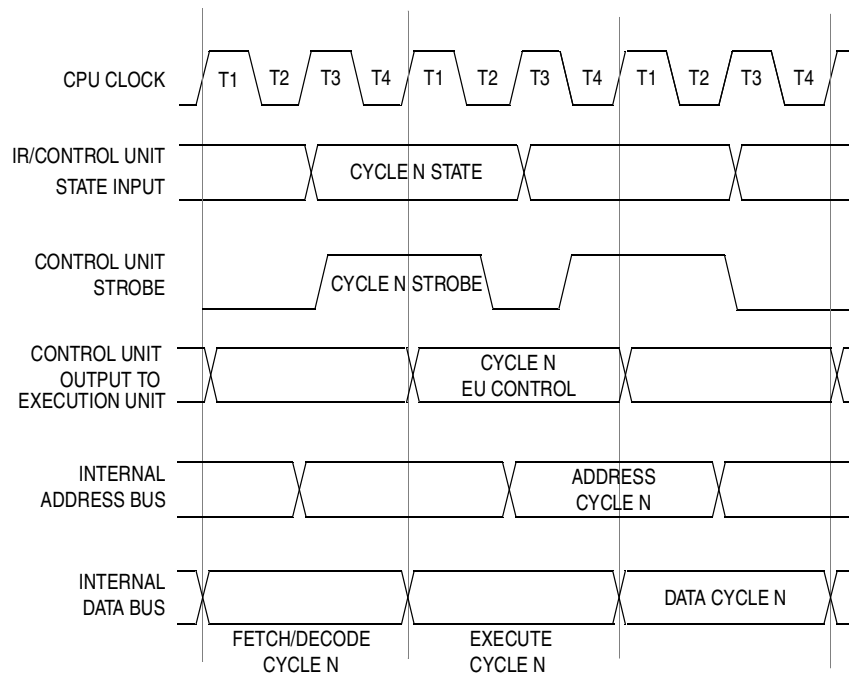

Figure 2-9. Control Unit Timing
The sequencer provides the next state of the machine to the control store based on the contents of the instruction register (IR) and the current state of the machine. The control store is strobed (enabled) when the next state input is stable, producing an output that represents the decoded next state condition for the execution unit (EU). This result, with the help of some random logic, is used to generate the control signals that configure the execution unit. The random logic selects the appropriate signals and adds timing to the outputs of the control store. The control unit fires once per bus cycle but runs almost a full cycle ahead of the execution unit to decode and generate all the controls for the next cycle. The sequential nature of the machine is shown in Figure 2-9.